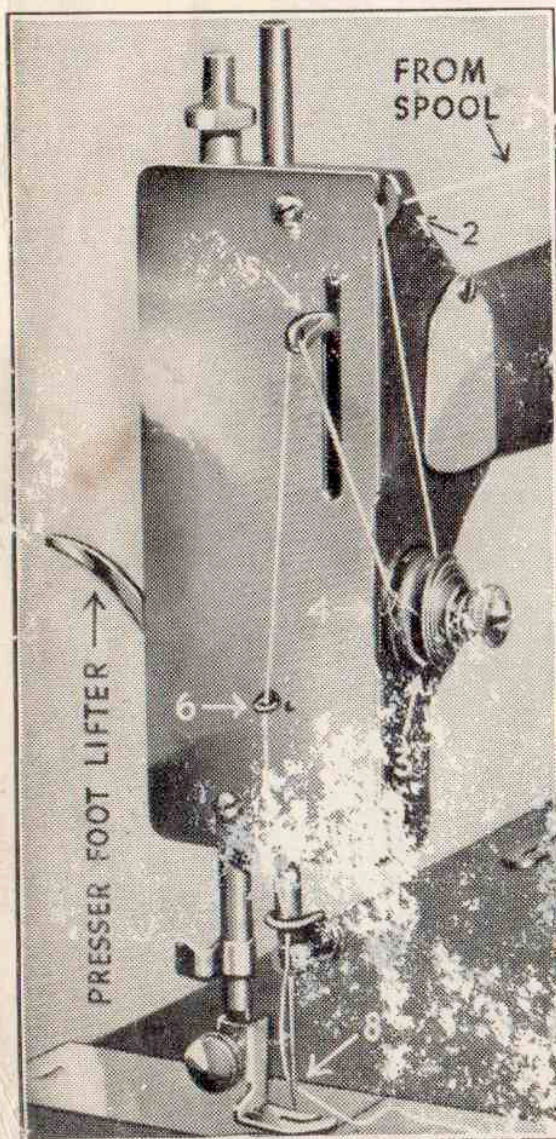

Fig. 6
slot (3), then to the lower end of the distributor to slot (4), then up to top thread guide (2, Fig. 6), placing the spool on the spool pin. Run the machine as previously instructed and the bobbin will automatically wind. Be sure to stop winding before the thread is wound higher than the brass ends of the bobbin.
(See Fig. 6)